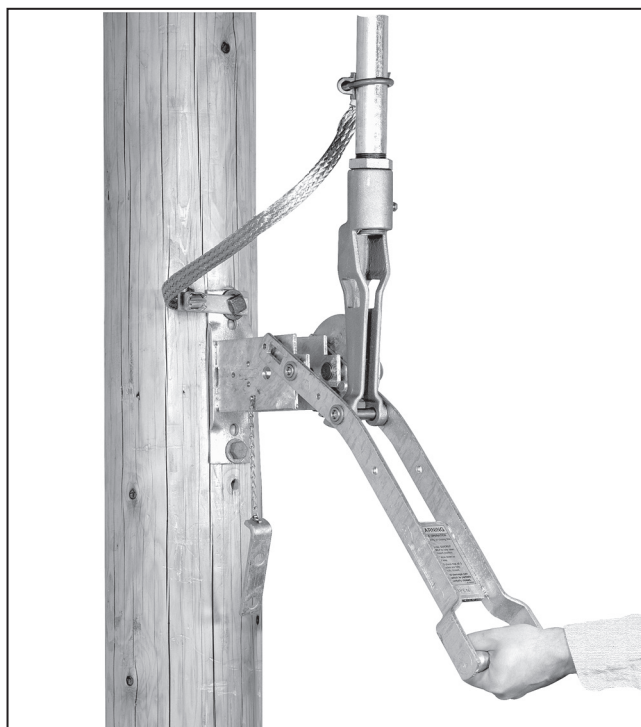

Figure 27. Verifying slack has been taken up in operating linkage.
**STEP 24.** Move the operating handle *slowly* to the closed position. See Figure 27. A definite resistance should be felt at the end of the stroke, indicating that all slack in the operating linkage has been taken up.